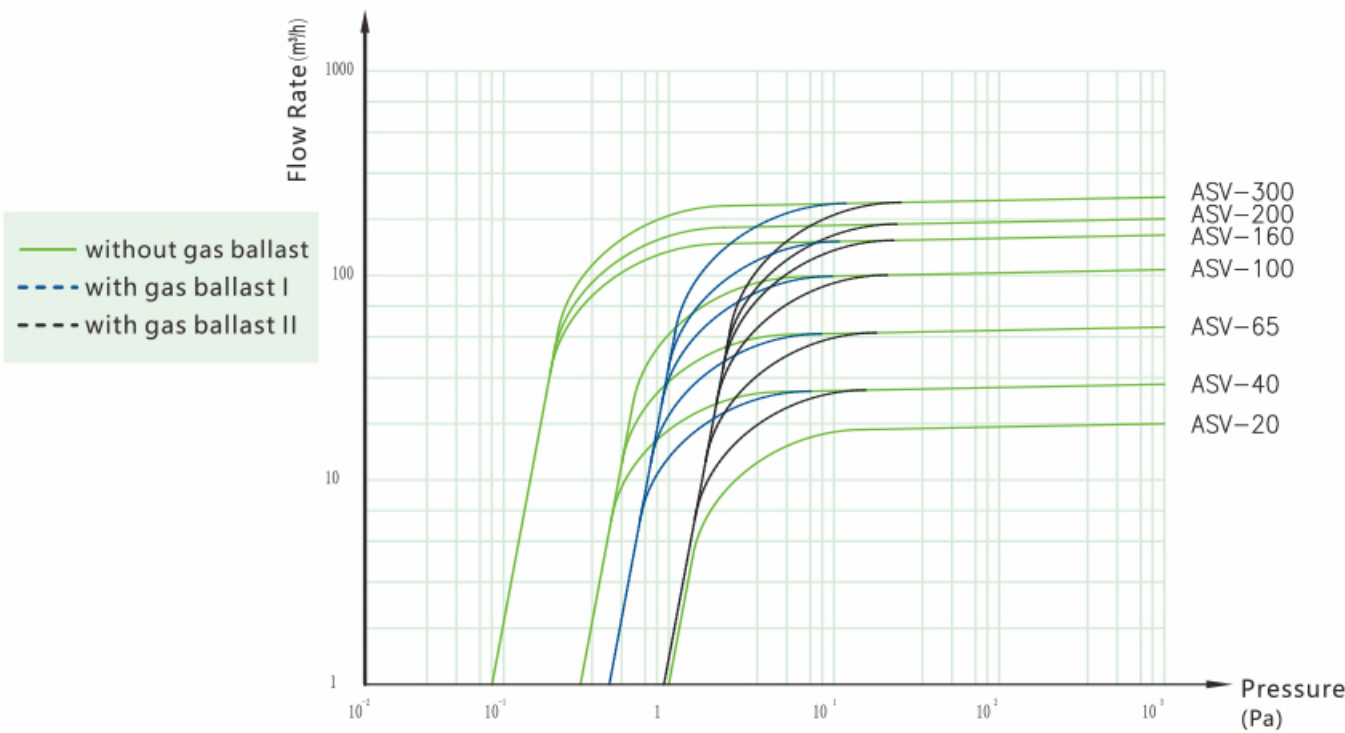

Fig.3
2.1 Pumping rate curve (as shown in Fig.3)